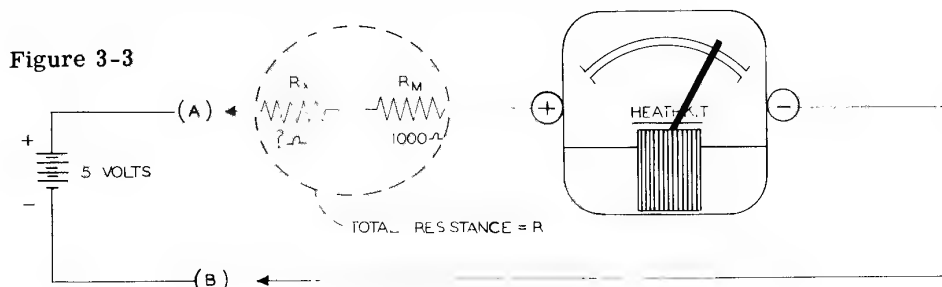

Figure 3-3
Again, it must be realized that when the test leads (A) and (B) of the EK-1 meter are connected to a 5 volt DC source, only 1 milliampere must be allowed to flow through the meter. For this reason, R_X must be inserted in the circuit. See Figure 3-3.
The total required circuit resistance (R) is 5,000 Ω . Since the meter presents 1,000 Ω to the circuit, an additional resistance of 4,000 Ω must be included in the circuit. This resistance is indicated as R_x in Figure 3-3.